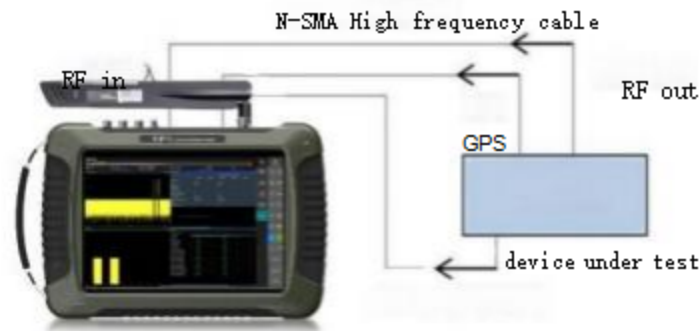

Figure 5.40 Schematic diagram of the tested equipment and RMT series spectrometer
Step 1. Connect the signal output port of the device under test to the RF input port of the RMT series spectrometer, as shown in Figure 5.40. It is recommended to connect the